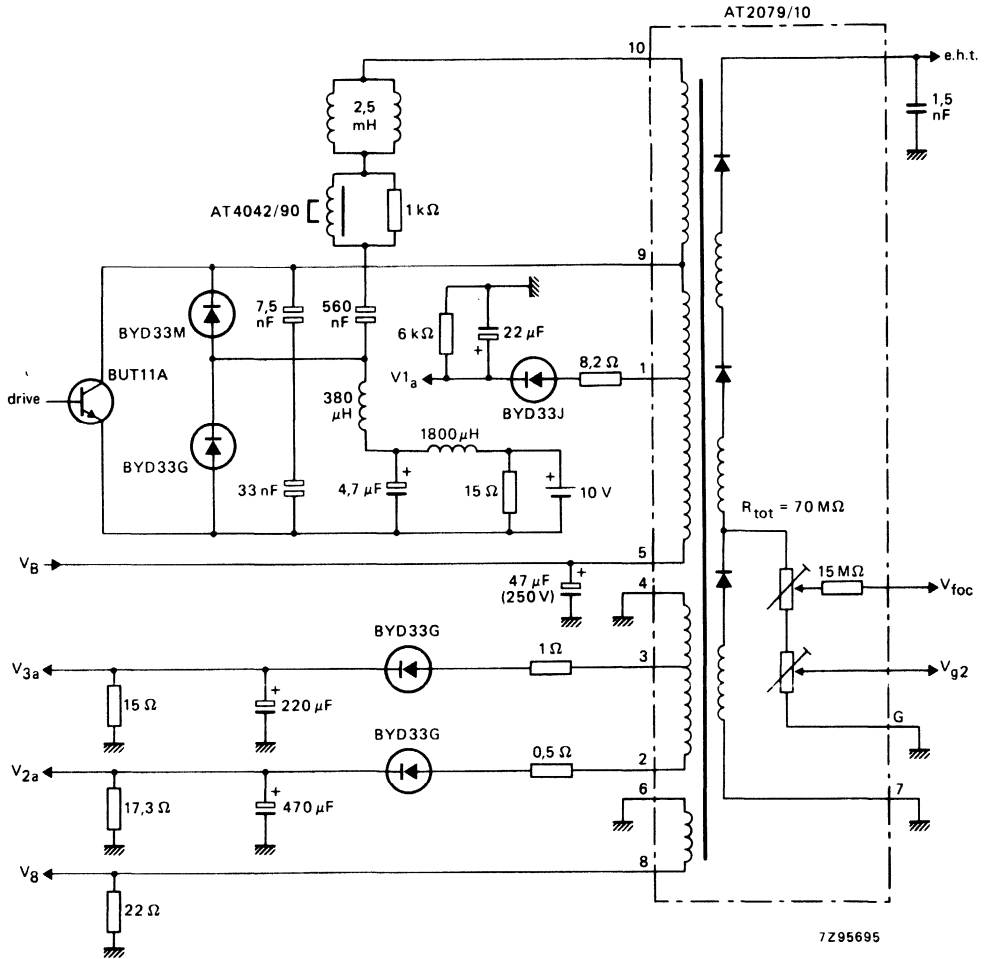

Fig. 3 Application circuit with diode modulator.
**ELECTRICAL DATA**; see application circuit with diode modulator, Fig. 3.